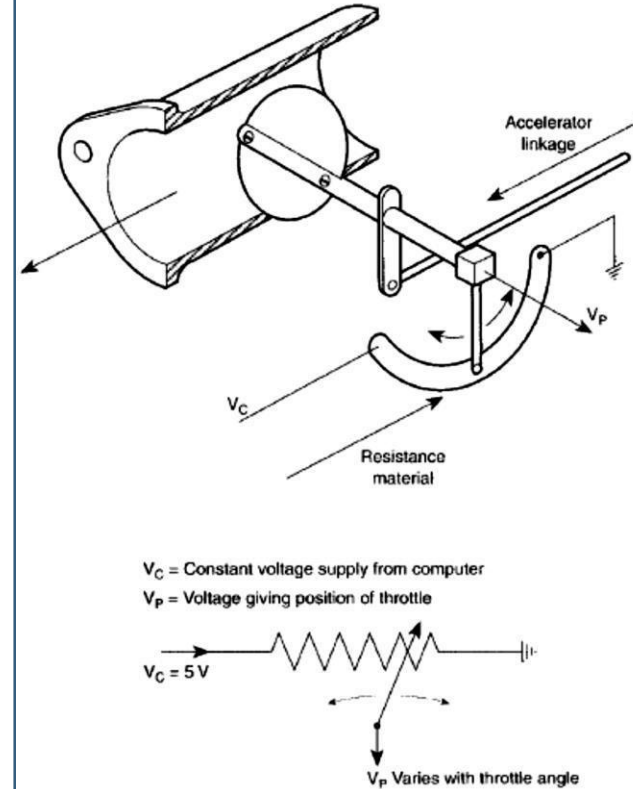

Fig. 5.12 The principle of the throttle position sensor
- These duties are performed by the throttle position switch. Figure 5.12 shows how the action of a throttle position sensor is based on the principle of the potential divider.